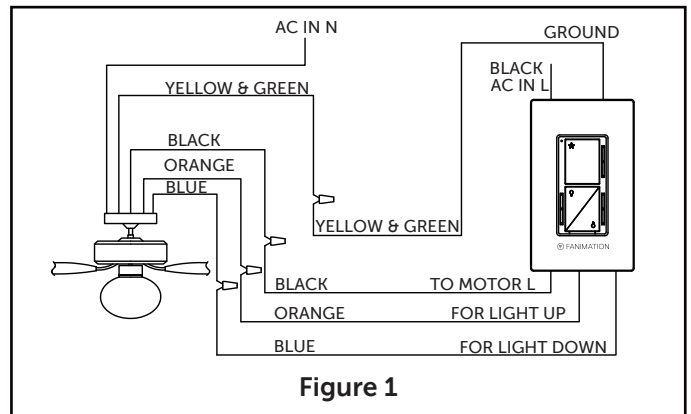

Figure 1
1. Connect wires using connectors as shown in Figure 1. Make wire connections and secure with wire nuts supplied.